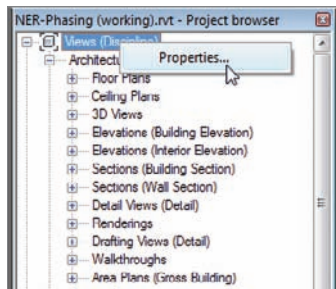

FIGURE 21.21 Opening the browser's properties
1. In the Project Browser, right-click on the Views (Discipline) heading, as shown in Figure 21.21, and click Properties.